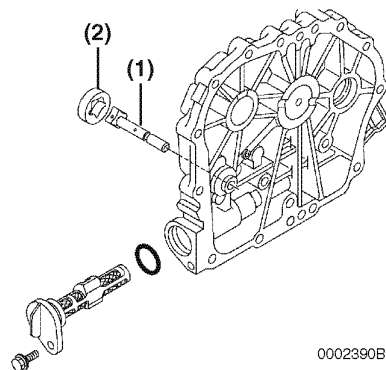

Figure 8-76
2. Install the inner rotor and shaft assembly (Figure 8-76, (2)). Install the outer rotor (Figure 8-76, (1)) with the dot on the rotor facing up.